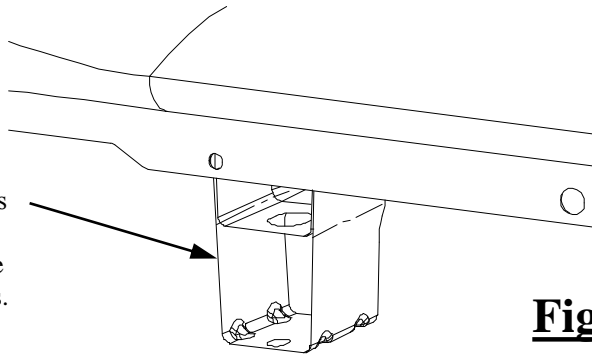

Figure 2
2. Detach the (2) electrical harness hanger plugs from the inside driver side of the frame just rear of the fuel tank.
3. (2013-18 ONLY) On 6.5' truck boxes only and using a reciprocating saw, cut off the extension attached to the truck box support beams and straddling the frame of the truck. (See Figure 2) This will ensure that the frame brackets (2) and (3) can mount to the outside of the truck frame. Note: This is not a structural part of the truck box and is only used by the manufacturer during assembly.